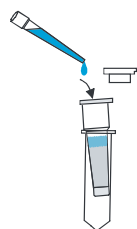

Figure 2: Pipetting of the extract onto the **aokinQuickClean** column
Place an **aokinQuickClean AFLA** ③ in a 2 mL collection tube and add 900 μ L of the filtrate/supernatant (Figure 2). Place it in the centrifuge and spin for 3 minutes at 5000 x g. Place second **aokinQuickClean AFLA** ③ column in a 2 mL collection tube and add \geq 650 μ L of the purified filtrate from the first column. Place it again in the centrifuge and spin for 3 minutes at 5000 x g or until all liquid passed the column.